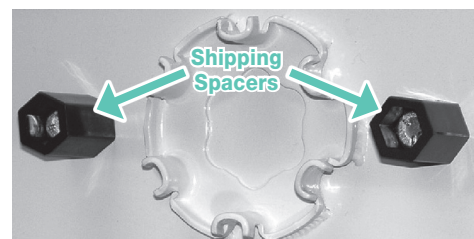

Figure 1
10. After headbox is mounted, and before operating shade, you MUST remove shipping spacers from inside headbox. First, remove closure panel (*see Page 5*). Find the hexagonal spacers on the motor end — one in front of roller and one behind (*Fig. 1*). Remove these spacers with an $\frac{1}{16}$ " wrench, taking care not to damage fabric or loosen wiring (*see caution note below*). Replace closure panel.